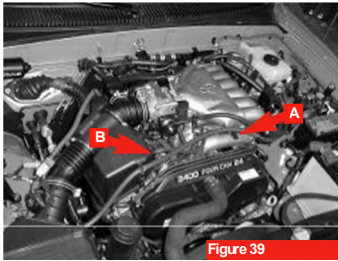

Figure 39
1. Remove rubber plug (see arrow A, figure 39) and hose (see arrow B, figure 39). Retain the plug for reuse, but the hose is not used on the supercharger install.